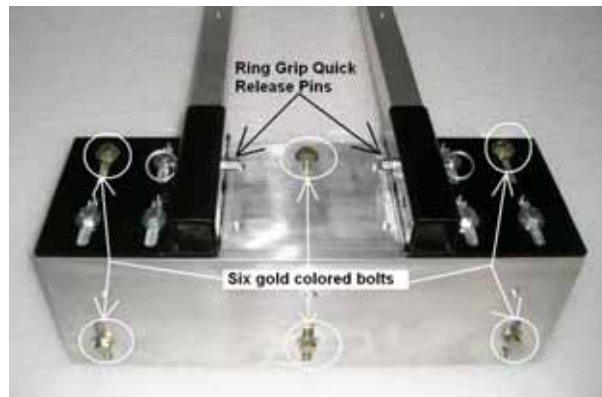

Figure 2
1. Begin installation by first loosening the 6 gold colored locking bolts located on each (Front and Rear) of the Mainframe Units using a 9/16” socket or wrench (see figure 2 for locations).
5. Once the Mainframe Units are in place, using a 9/16” socket or wrench, secure the 18” long mainframe support angles by securely tightening the 6 gold colored bolts (see figure 2 for location).
7. Insert the Square Wheel support Bars (item D) into the Wheel Support Bar Brackets and secure by inserting the Ring Grip Quick Release Pin (item H) into the desired hole setting (see figure 2). Each should have two settings to choose from. After choosing the appropriate setting, be sure to remain consistent with all 4 pin settings.